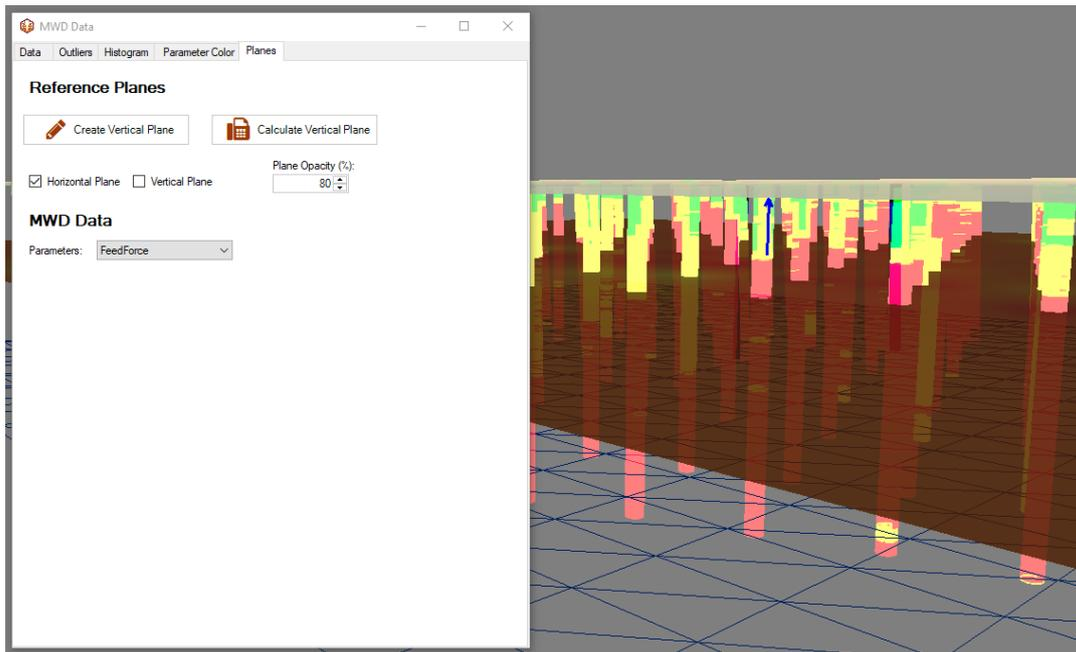

Figure 449 - MWD Data - Planes Tab: Activating Horizontal Plane.
- **Horizontal Plane:** The software automatically recognizes the horizontal plane using the bench bottom as a reference. Once activated via the checkbox, an arrow will appear in the 3D scene, allowing users to move the horizontal plane (Figure 449).